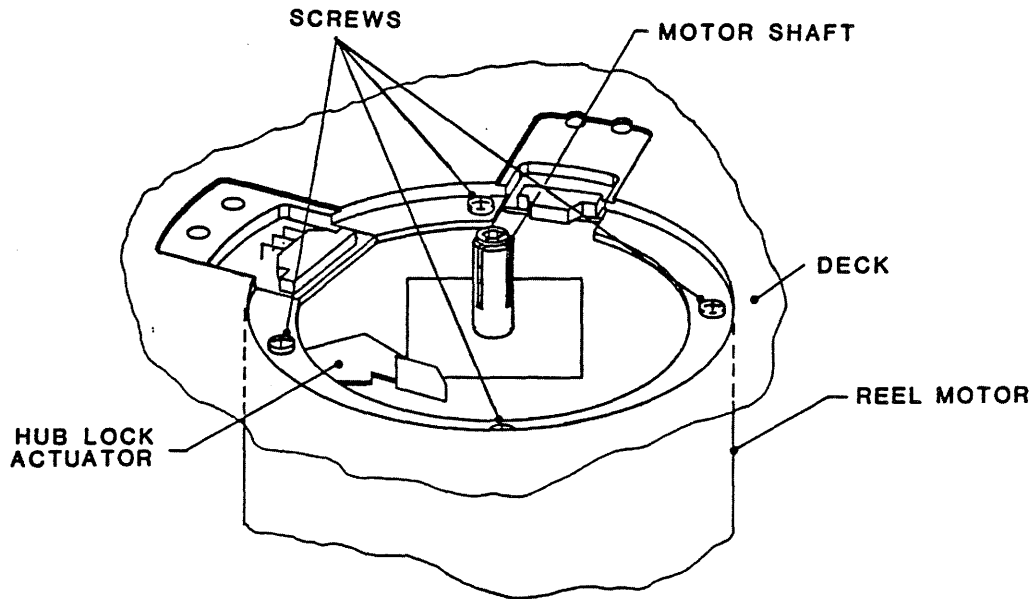

**Figure 4-23 Vacuum Motor Assembly**
**4.3.28 VACUUM MOTOR ASSEMBLY** (Figure 4-23)